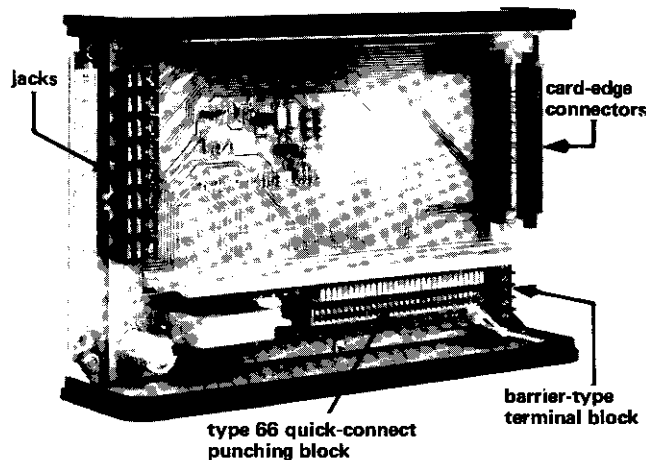

figure 2. 267S Assembly showing jack and connector locations
1.07 As mentioned above, the 267S is a pre-wired Assembly compatible with the entire Tellabs 6900 family of SF Signaling Set modules. These modules make electrical connection through two 56-pin card-edge connectors mounted at the rear of the Assembly (please refer to figure 2). These connectors are factory-wired to a 60-pin Type 66 quick-connect block via printed-circuit-board traces. Power and, if supplied externally, ringing connections are made to a barrier-type terminal strip near the cable entrance hole. Eight 310-type jacks (four per module position) are located near
3.01 All facility, power, and ring generator (if external) leads enter the 267S Signaling and Terminating Assembly through a hole on the lower righthand side. These leads should be dressed as per local convention, allowing enough slack to permit the Assembly to be swung away from the wall without stressing the cable. Figure 2 shows the physical locations of the terminal blocks discussed in the following paragraphs.